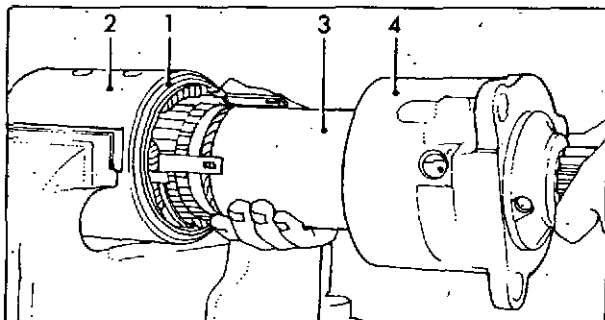

Fig. 25 Replacing armature into yoke
Secure yoke in vice as shown in fig. 25 and place a new sealing ring (1) in position. Insert the armature (3) while taking care to avoid damage to the windings or commutator. Ensure that the dowel in the end of yoke engages with the hole in the drive end shield (4). If necessary tap the shield into position with a soft faced mallet.